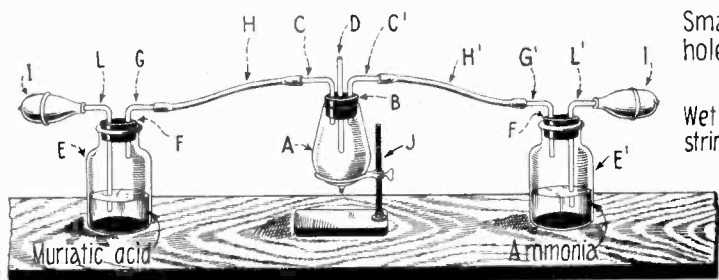

Fig. 1
In the diagram, Fig. 1 (A), is an incandescent lamp bulb with the plug removed. The plug may be removed as follows: File a small hole in the glass near the plug, which must be done cautiously, to admit the air. Then wind a wet string several times around the glass just above the place where the bulb is to be severed, as illustrated in Fig. 2. Then run a hot piece of metal around the lamp between the string and the plug. The glass will then crack in a straight line all the way round. With a slight blow, the plug will fall off.
In Fig. 1 (B), is a rubber stopper with three small holes (not too small), and C and C' are two bent glass tubes which pass through B. The two vapors enter the bulb through these. A straight glass tube D, passes through B, between C and C'. It should extend about three-quarters of the way down the bulb. This tube allows the excess air and gases, which are harmless, to escape. The bottles E, and E' contain muriatic acid and ammonia respectively. Of the other parts, F and F', are two-holed rubber stoppers, G and G' are two bent glass tubes which are connected to C and C' respectively by rubber tubes H and H', and L and L' are also two bent glass tubes, on one end of each there being attached a plumber's furnace bulb. The other ends dip almost to the bottom of the liquids.